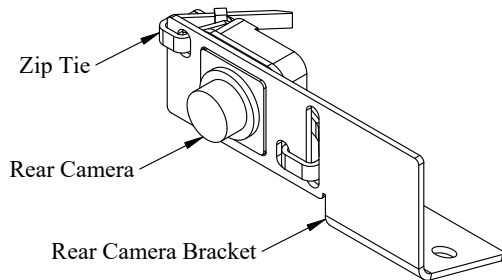
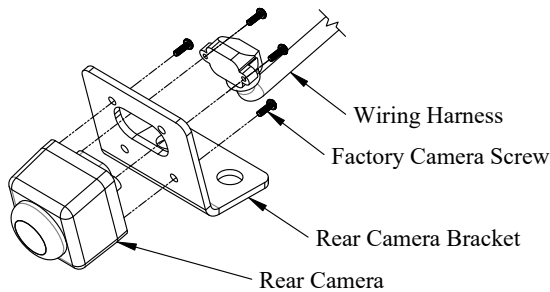
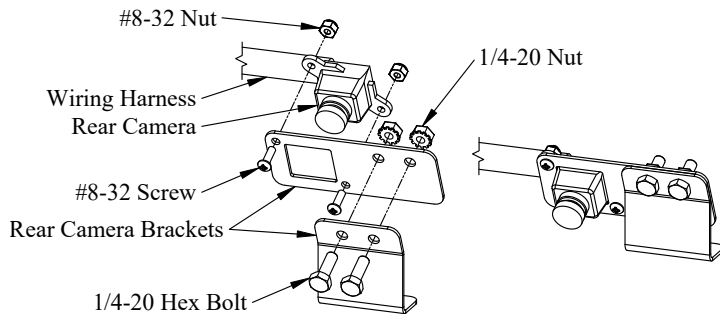

Figure 4: Ford rear camera and bracket assembly.
Figure 5: GM rear camera and bracket assembly.
Figure 6: Ram rear camera and bracket assembly.
9. Place rear camera into bracket and zip tie as shown for a Ford (Figure 4), screw in place for a GM (Figure 5) or Ram (Figure 6).